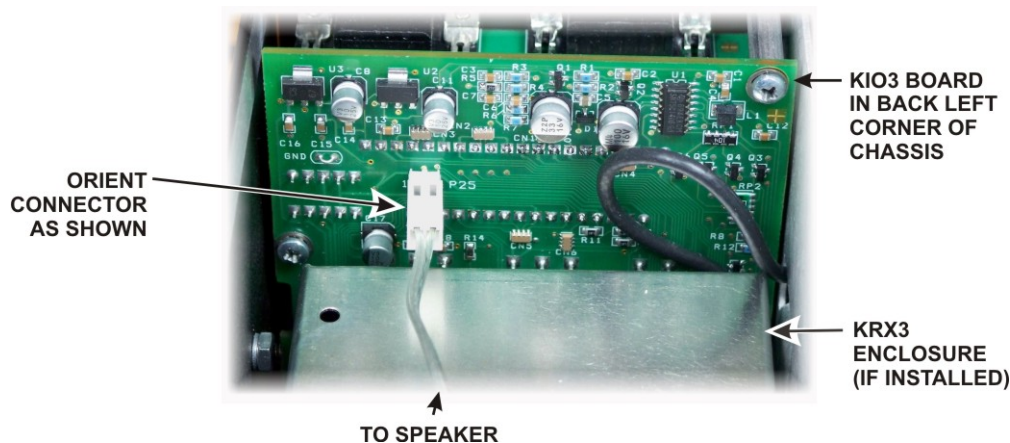

Figure 5. Connecting Speaker Cable.
- Hold the top cover above the K3, route the speaker wire under the stiffener bar and plug it into P25 on the KIO3 board at the left rear of the K3 as shown in Figure 5.